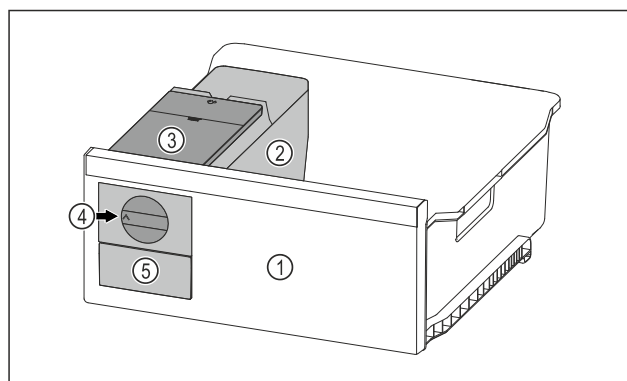

Fig. 179 Example illustration
- Turn the rotary knob Fig. 179 (4) clockwise as far as it will go.
- Ice cubes fall from the ice cube tray into the ice cube drawer Fig. 179 (5).